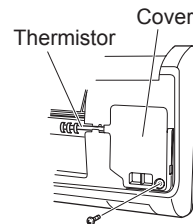
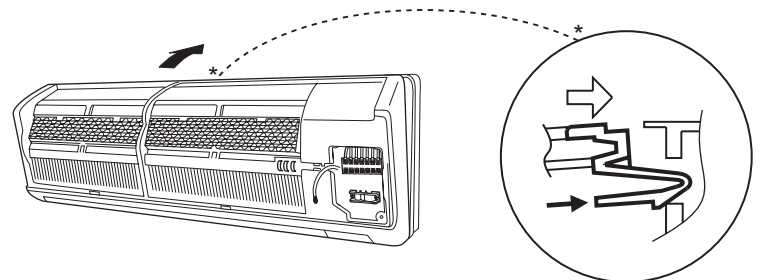

Fig. 10a
Fig. 11b
- (3) Remove the screw on the right side cover plate and open the cover. (Fig. 10a)
- (1) Reinstall the grille into the lower part while aligning its tabs on the upper part. (Fig. 11b) Insert the tabs in the slots and push the lower part of the grille back into position.
- (2) Make sure that the grille and frame are firmly fitted together by engaging the tabs.
- (3) Attach the thermistor on the grille. (Fig. 10a)
- (4) Close the cover and replace the screw. (Fig. 10a)